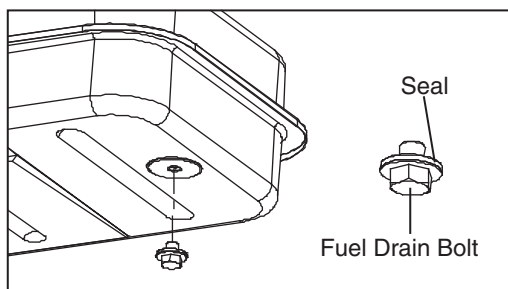

Figure 5. Drain Bolt
4. Move the removed handle front to the handle on the front side as Figure 5 and then tighten 4 screws after matching handle and handle front.